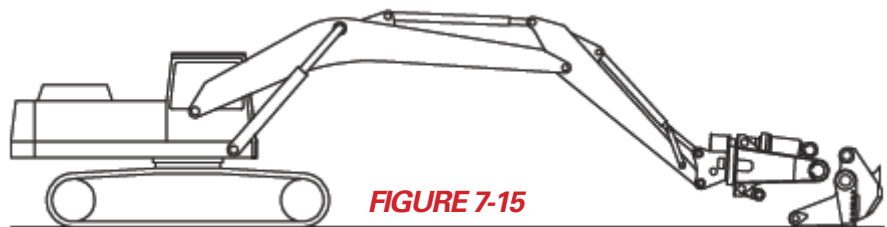

FIGURE 7-15
11. Secure the jaw set as necessary to keep it upright and stable during installation. With the attachment still facing out, walk it into position to line up the main pivots of the attachment and jaw set (see Figure 7-15). Install the main pin.